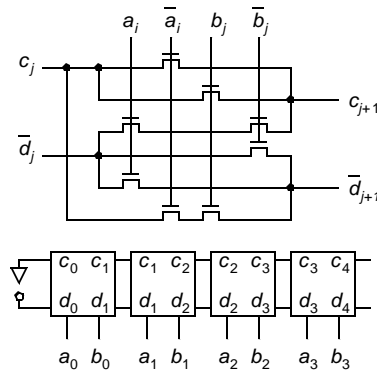

Figure 0.1 Arithmetic module.
3. [E, None, 11.6] Show how the arithmetic module in Figure 0.1 can be used as a comparator. Derive an expression for its propagation delay as a function of the number of bits.